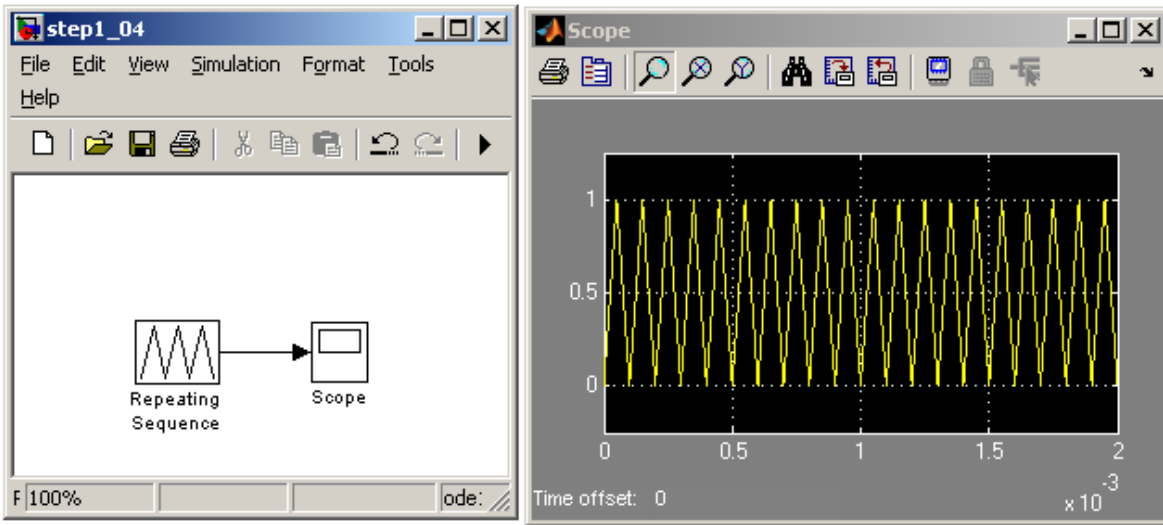

Figure 2.2: Triangular Waveform with 10 kHz frequency
- Run the simulation by clicking on the triangular button on the top. Double click on the scope after the simulation finishes. The result should look similar to the one shown in Fig. 2.2.
- Copy and paste the model of triangular waveform generator from section 2.3.1 (Fig 2.2).